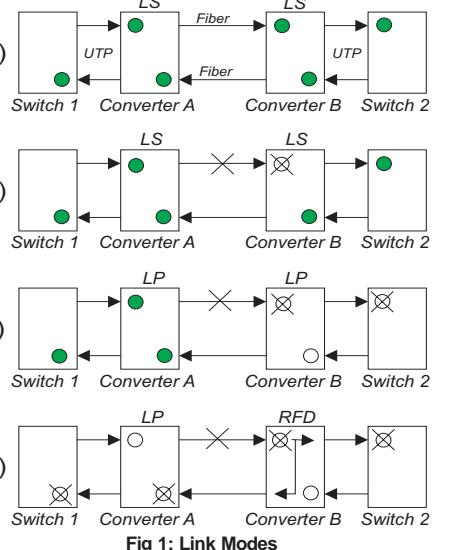

Fig 1: Link Modes
In "Link Segment" (LS), sometimes referred to as the "Normal" mode, a converter port transmits a "Link" signal independently of any received "Link" at any other port. For example, the UTP transmits a "Link" regardless of the fiber receiving a "Link" [Fig 1(b)].
In "Link Propagate" (LP), sometimes referred to as "Link Loss Carry Forward", a converter port transmits a "Link" signal only when receiving a "Link" at its other port. For example, the UTP transmits a "Link" only when receiving a "Link" at the fiber port. [Fig 1(c)].
when receiving "Link" signals both at the fiber port and the UTP port. As a result, fiber faults (no "Link" received at the fiber) are looped-back and can be reported to the network's core [Fig 1(d)].